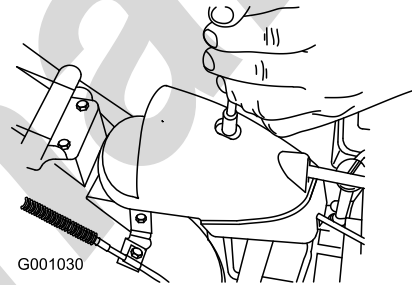

Figure 49
- Remove the fastener on the gear cover (Figure 49), lift the front of the cover up, and slide it back and out of the way.